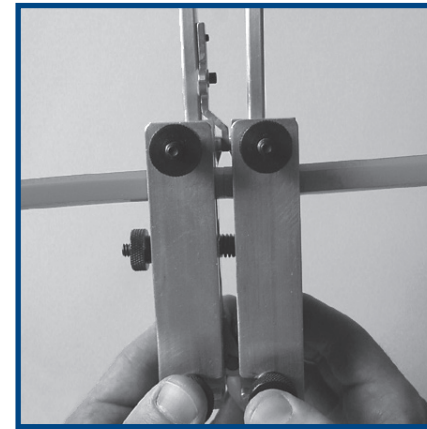

Figure 3
6. On the opposite clamp, loosen nuts and place belt in the same clamping position. **Warning:** Make sure there are no twists in the belt. When inserting the belt in to the clamps, follow the natural curve of the belt to avoid twisting the belt. Slide belt in clamp until the two belt ends butt together. Make sure that ends are properly aligned on all sides; see Figure 3. Tighten clamp nuts. Note: Try to keep both clamping plates parallel to the grooved base blocks.